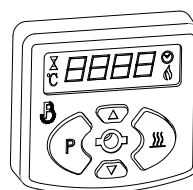

Fig.26
5.3 Digital control switch (Optional device, see Fig.26)